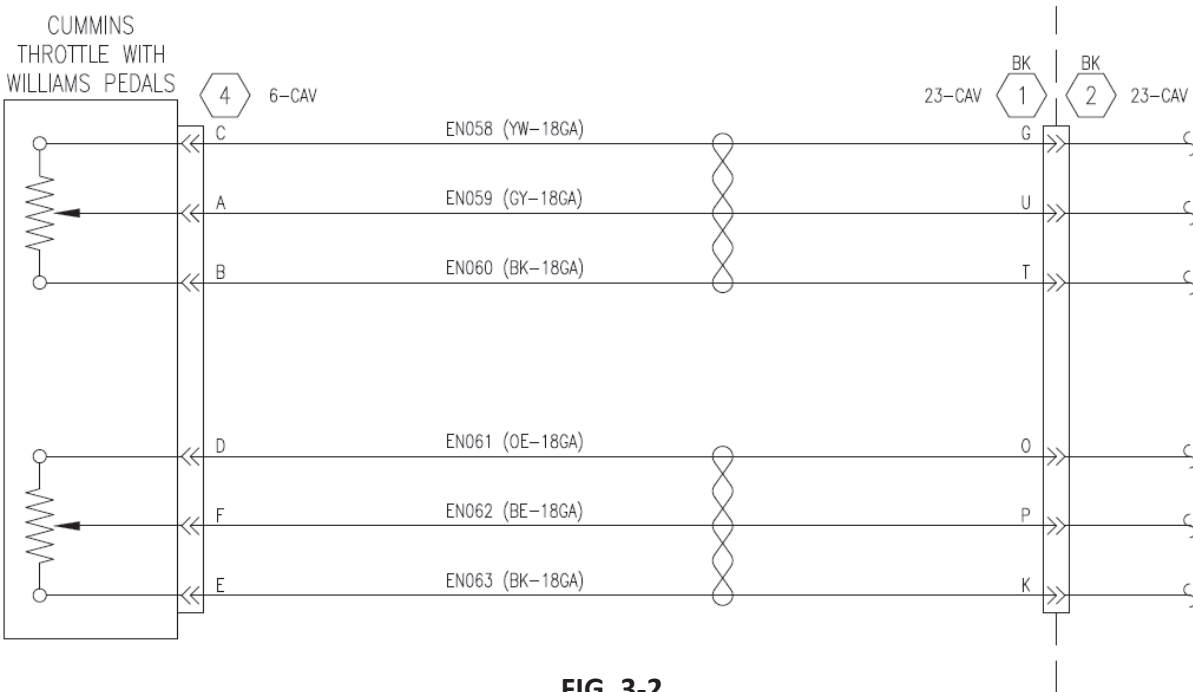

FIG. 3-2
1. Identify and disconnect throttle pedal connector, Item ④ in FIG. 3-2, from throttle assembly. Pull back loom 12 inches over wiring terminated into throttle pedal connector. Verify wiring consists of 6 discreet wires (untwisted) then go to step 2. If wiring consists of 2 twisted triplets (refer to FIG. 3-2), replace loom over wiring and reconnect throttle pedal connector, Item ④. No further action is required.
3. Connect new throttle pedal connector, Item ④, of new 3995-GG5-001 overlay harness into throttle assembly. Refer to FIG. 3-2.
5. Locate and disconnect main chassis harness interconnect, Item ①, from forward electrical compartment disconnect. Refer to FIG. 3-2
- Insert new circuits from new overlay harness into existing main chassis harness interconnect connector Item 1. Refer to FIG. 3-1. Each wire is tagged with a label depicting which cavity it belongs in. Refer to FIG. 3-2. Note that the wiring/pin out does not change.
9. Re-connect main chassis harness interconnect connector, Item , to firewall disconnect. Refer to FIG. 3-2.